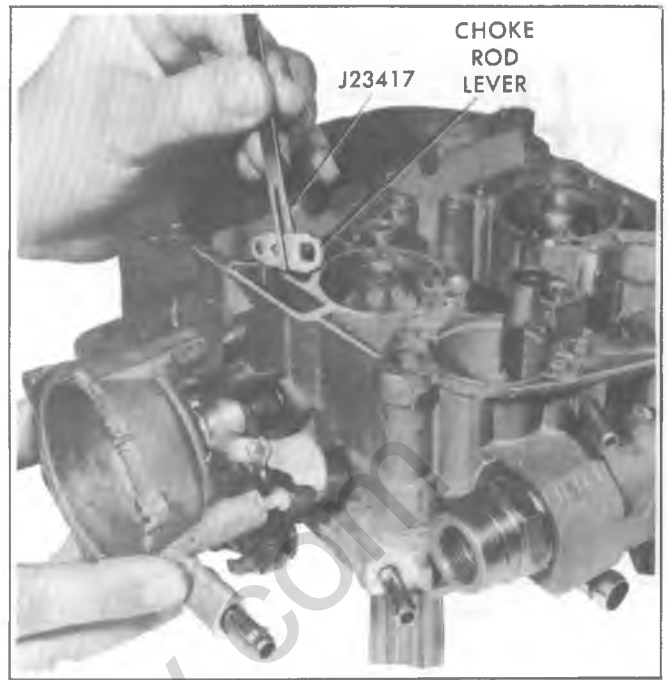

Fig. 6C4-39--Installing Choke Rod Lever
4. Install fuel inlet filter spring, filter, new gasket and inlet nut and tighten nut to 24 N·m (18 ft. lbs.) (Fig. 6C4-35).